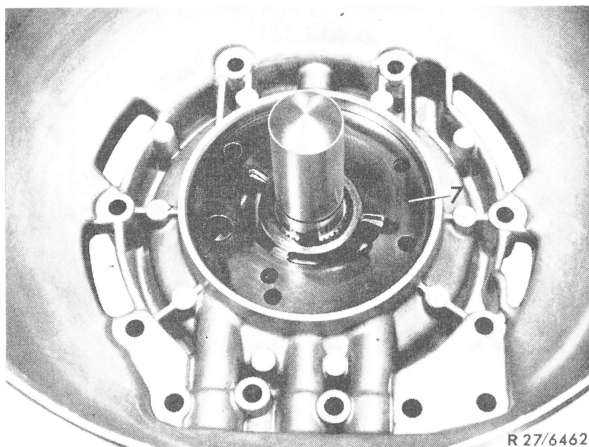

Fig. 8
10 Insert intermediate plate (7) in such a manner that the fastening bores for the primary pump are in alignment (Fig. 8).